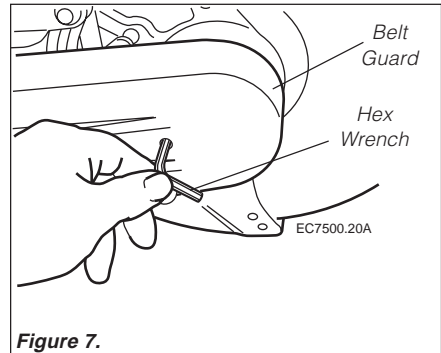

Figure 7.
3. Insert a hex wrench into the hole in the belt guard to prevent the arbor from turning. See Figure 7.